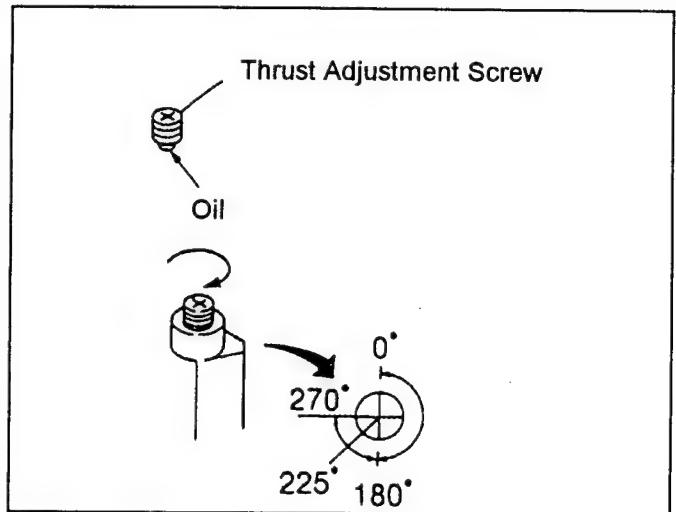

Fig. 4-18-2
5. Turn the Thrust Adjustment Screw another an angle of 270° from 180° (about 225°) clockwise as shown in Fig. 4-18-2.)